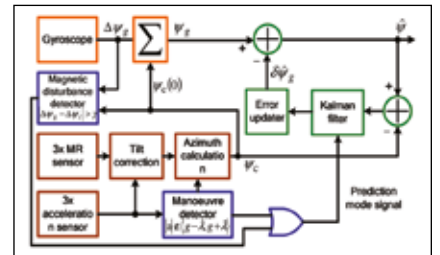

Fig. 5 Integration algorithm
The Heading Reference System uses the gyroscope data and the compass data to determine current heading [4, 5, 6]. The design utilizes a Kalman filter (KF) [6] to integrate the measurement data and estimate gyroscope errors. The results of estimation are subsequently used to calculate the estimated heading $\hat{\psi}$. The block diagram of the implemented integration algorithm is shown in Fig. 5.